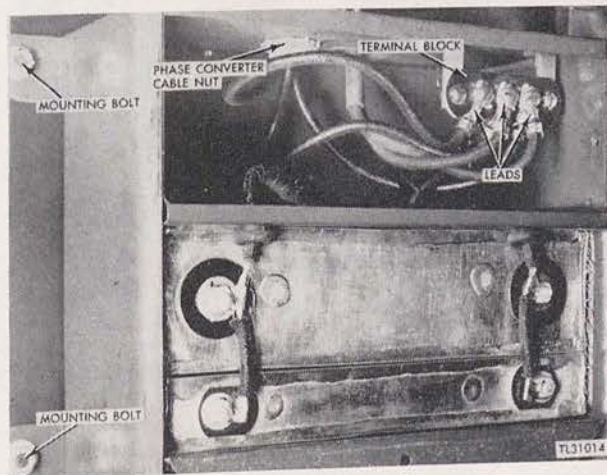

Figure 130. Water Cooler RU-4-A, showing connections to Phase Converter 9.
- (1) Remove the top and rear panels.
- (2) Remove the two bolts holding the cover to the converter box.
- (3) Remove the cover.
- (4) Loosen the three bolts holding the leads on the terminal block (fig. 130).
- (5) Remove and tag the three leads.